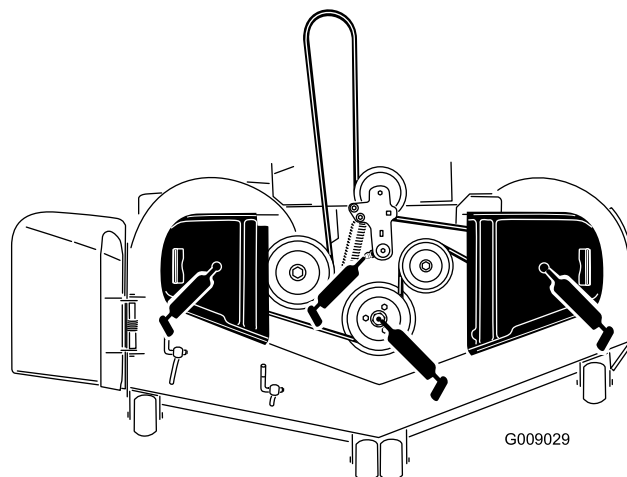

Figure 46
3. Grease the mower deck idler-pulley pivot until grease come out the bottom (Figure 46).
4. Grease the 3 spindle bearings until grease comes out (Figure 46).